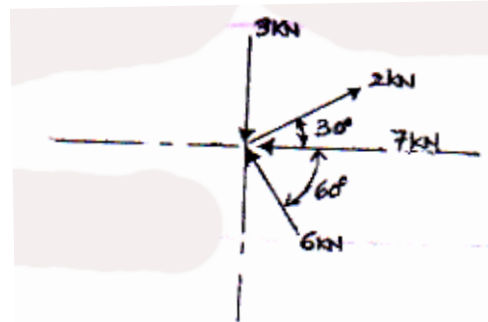

Figure 3
- Q4) a) Find resultant of given force system given in figure 3. [8]